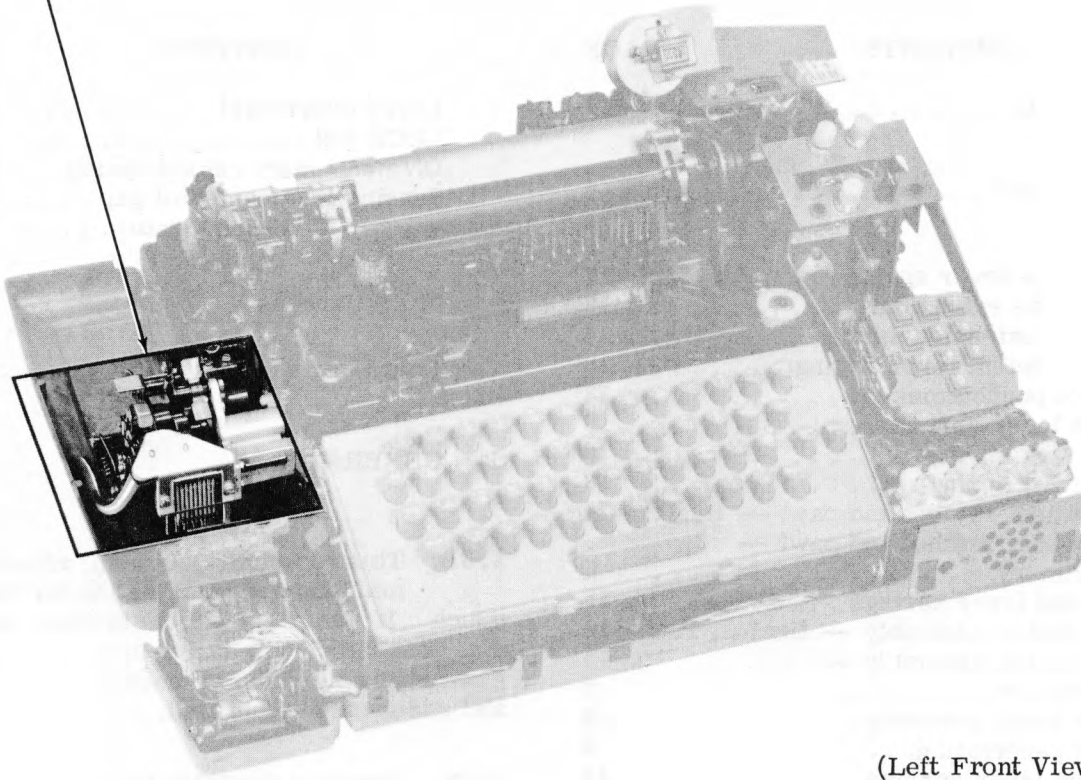

Figure 1 - Tape Punch Area
1.02 Figure 1 shows the tape punch area where the punch adjustments and spring tension checks are made.